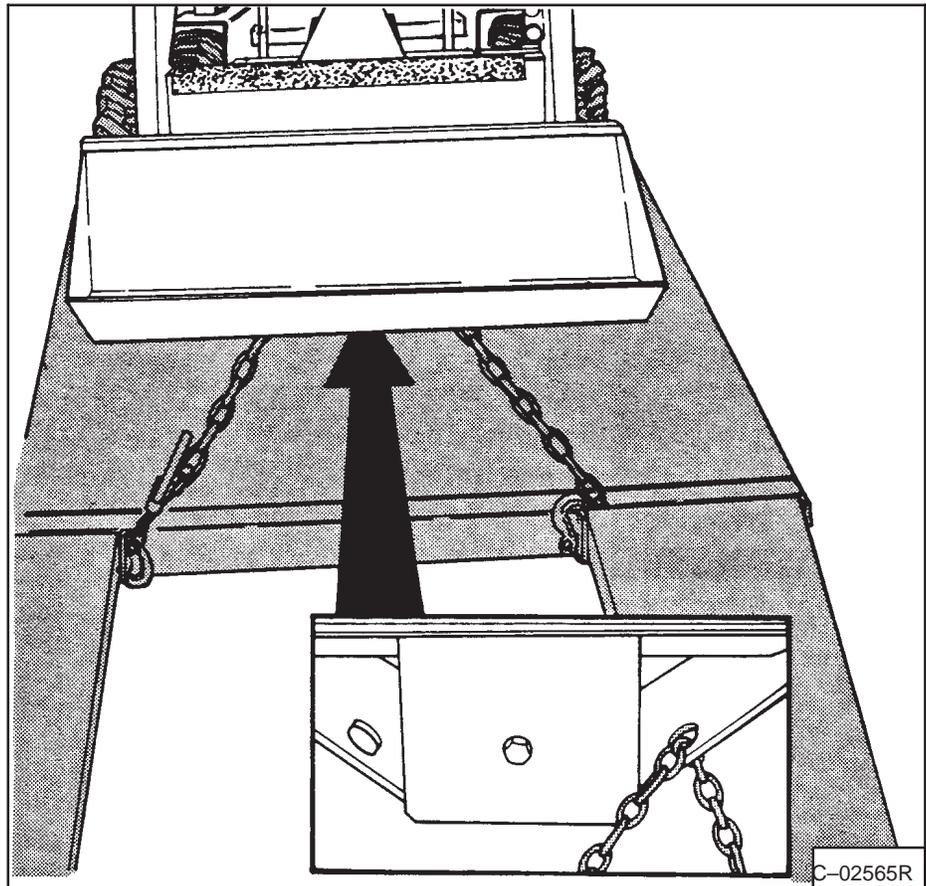

Fig. 1-47 Installing Hold-down Chains
- Put a chain through the axle gusset and fasten to the Bobcat loader and to the transport vehicle (Fig. 1-47).